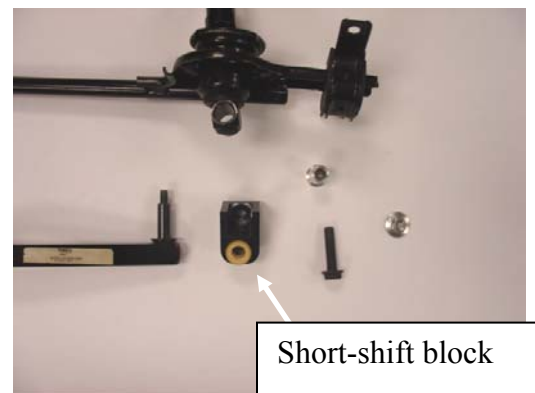

Figure 2
5. Get the Short-Throw Shifter Block (“quick-shift” block) piece (shown in Figure 2). Note there are two holes in the L-shaped quick shift block; one on the narrow end and one on the wide end (the bottom of the “L”).